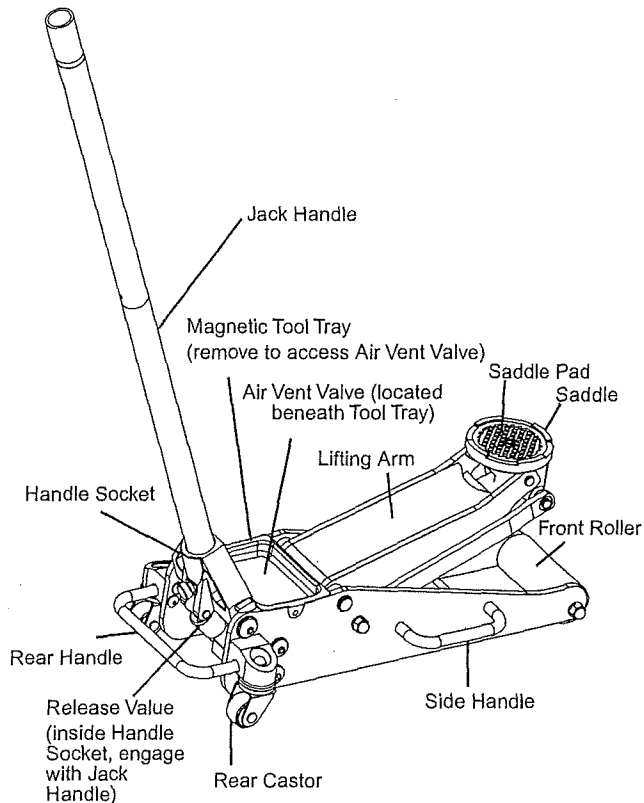

FIG. 3
Compare Fig. 3 illustration with your jack BEFORE operation to become familiar with the location of various jack components.
- Close the release valve by turning the jack handle clockwise until tight. (see Fig. 3)
- Refer to the vehicle manufacturer's owner's manual to locate approved lifting points on the vehicle. Position jack so that the saddle (see Fig. 3) is centered under the load at an appropriate lift point.
- Position the jack on level ground and fully lower the saddle. (Ram will be all the way in). Remove air vent valve located under tool tray (see Fig. 3 & 4).